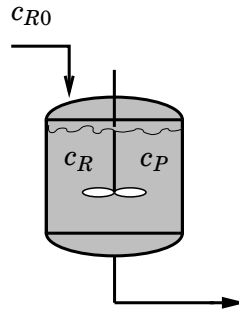

Figure 2.3 Continuous tank reactor in Problem 2.3.
2.3 Consider a continuous tank reactor with constant volume V , constant flow q , and the two reactants R and P , see Figure 2.3. Derive the process dynamics and write the system in state-space form with matrices. Use the concentrations c_R and c_P as state variables. Let the control signal be the feed concentration c_{R0} and let the measurement signal be c_P .